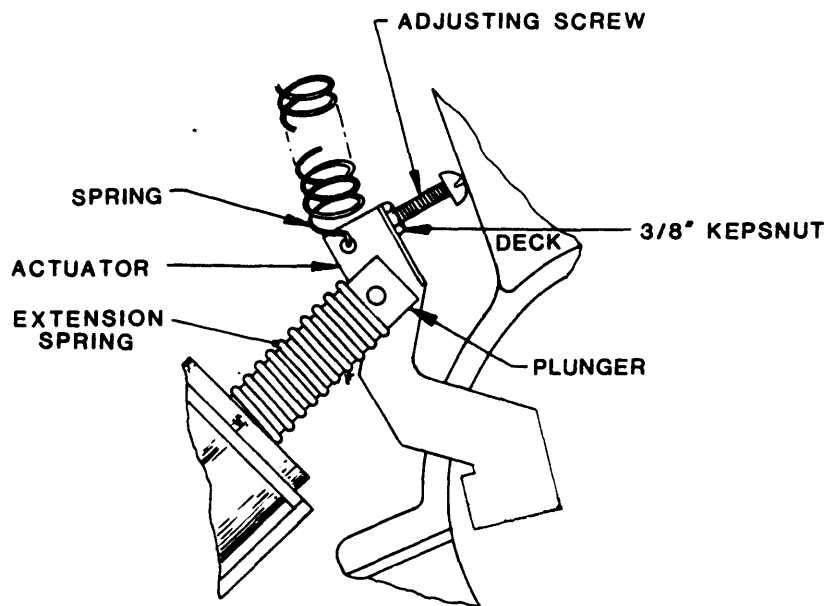

Figure 4-6 Hub Lock Solenoid Actuator
4.3.4 SPRING, EXTENSION (Fig. 4-6)